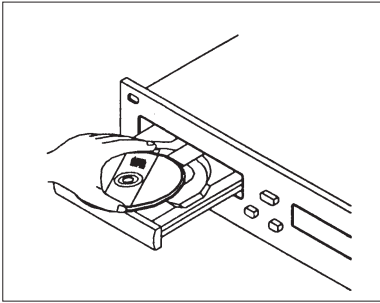
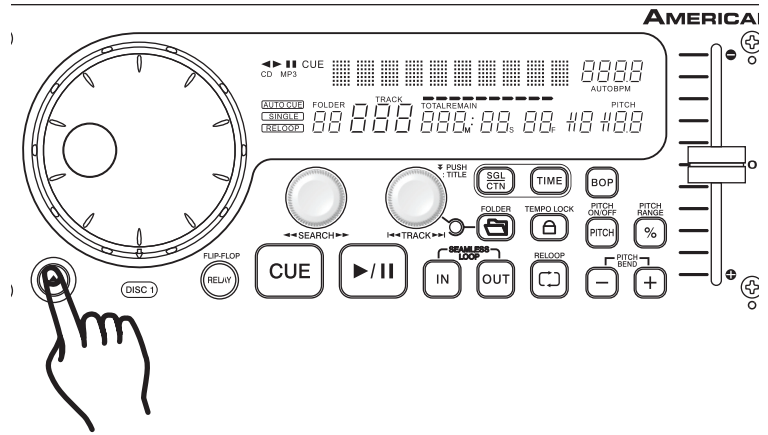

Figure 6: When loading a disc always hold the disc by its edges and load the disc label side up.
Figure 7: Hold down the Eject Button to remove a disc.
The MCD-710™ can only play 3 and 5 inch CDs. Odd shaped, and oval CDs are not compatible. When loading a CD into the transport tray, always hold the disc by its edge (see Figure 6). Load the disc label side up and place it in the disc tray. Never touch the signal surface (the glossy side). To remove a disc from the tray press the **EJECT BUTTON** (21), see Figure 7.